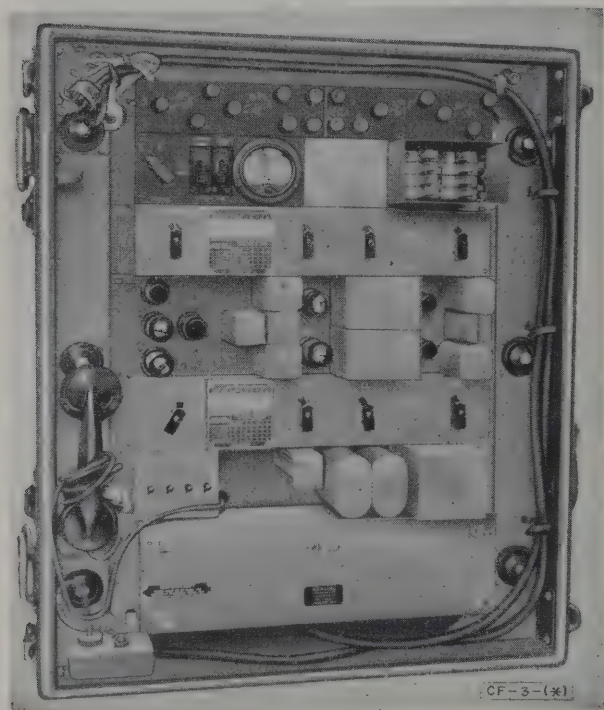

Figure 101. Repeater CF-3-A.
a. Repeater CF-3-(*) is a transportable 4-wire carrier repeater designed for use at intermediate points in a spiral-four cable carrier system (fig. 101). This repeater will be used with the radio equipments covered in this technical manual only if the carrier terminal is located more than five miles from the terminal radio station. Repeater CF-3-(*) amplifies simultaneously all transmission present on the